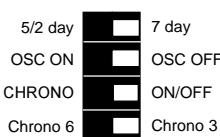

Fig. 4
4. Before fixing the unit on to its wallplate, ensure that the four DIP switches on the rear of the unit (see Fig. 4) have been moved to the required settings; the choices are:-